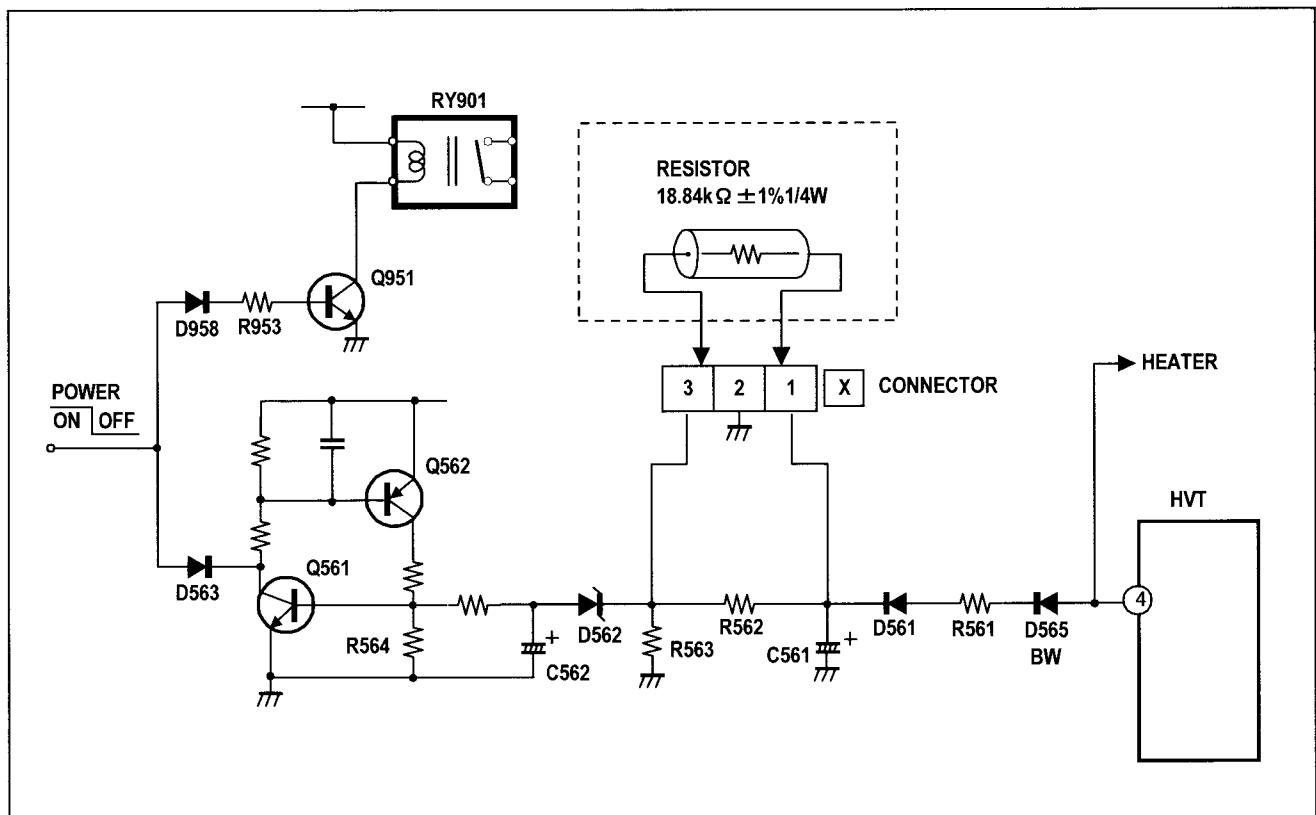

Fig. 1
After repairing the high voltage hold down circuit shown in Fig. 1.
- (1) Turn the POWER SW ON.
- (2) As shown in Fig. 1, set the resistor (between X connector [1] & [3]).
- (3) Make sure that the screen picture disappears.
- (4) Temporarily unplug the power cord.
- (5) Remove the resistor (between X connector [1] & [3]).
- (6) Again plug the power cord, make sure that the normal picture is displayed on the screen.